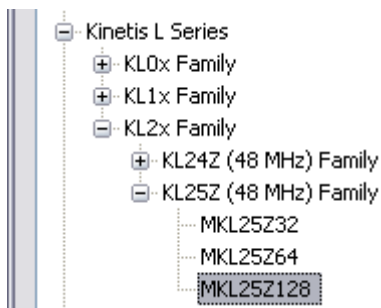

Figure 11. Kinetis L family tree
9. The next window in the wizard allows selecting the desired MCU. For this case the MKL25Z128 (48 Mhz) derivative is selected. To perform this selection go and navigate in the tree as Figure 11 shows. Once the MKL25Z128 option is selected click the “Next >” button.